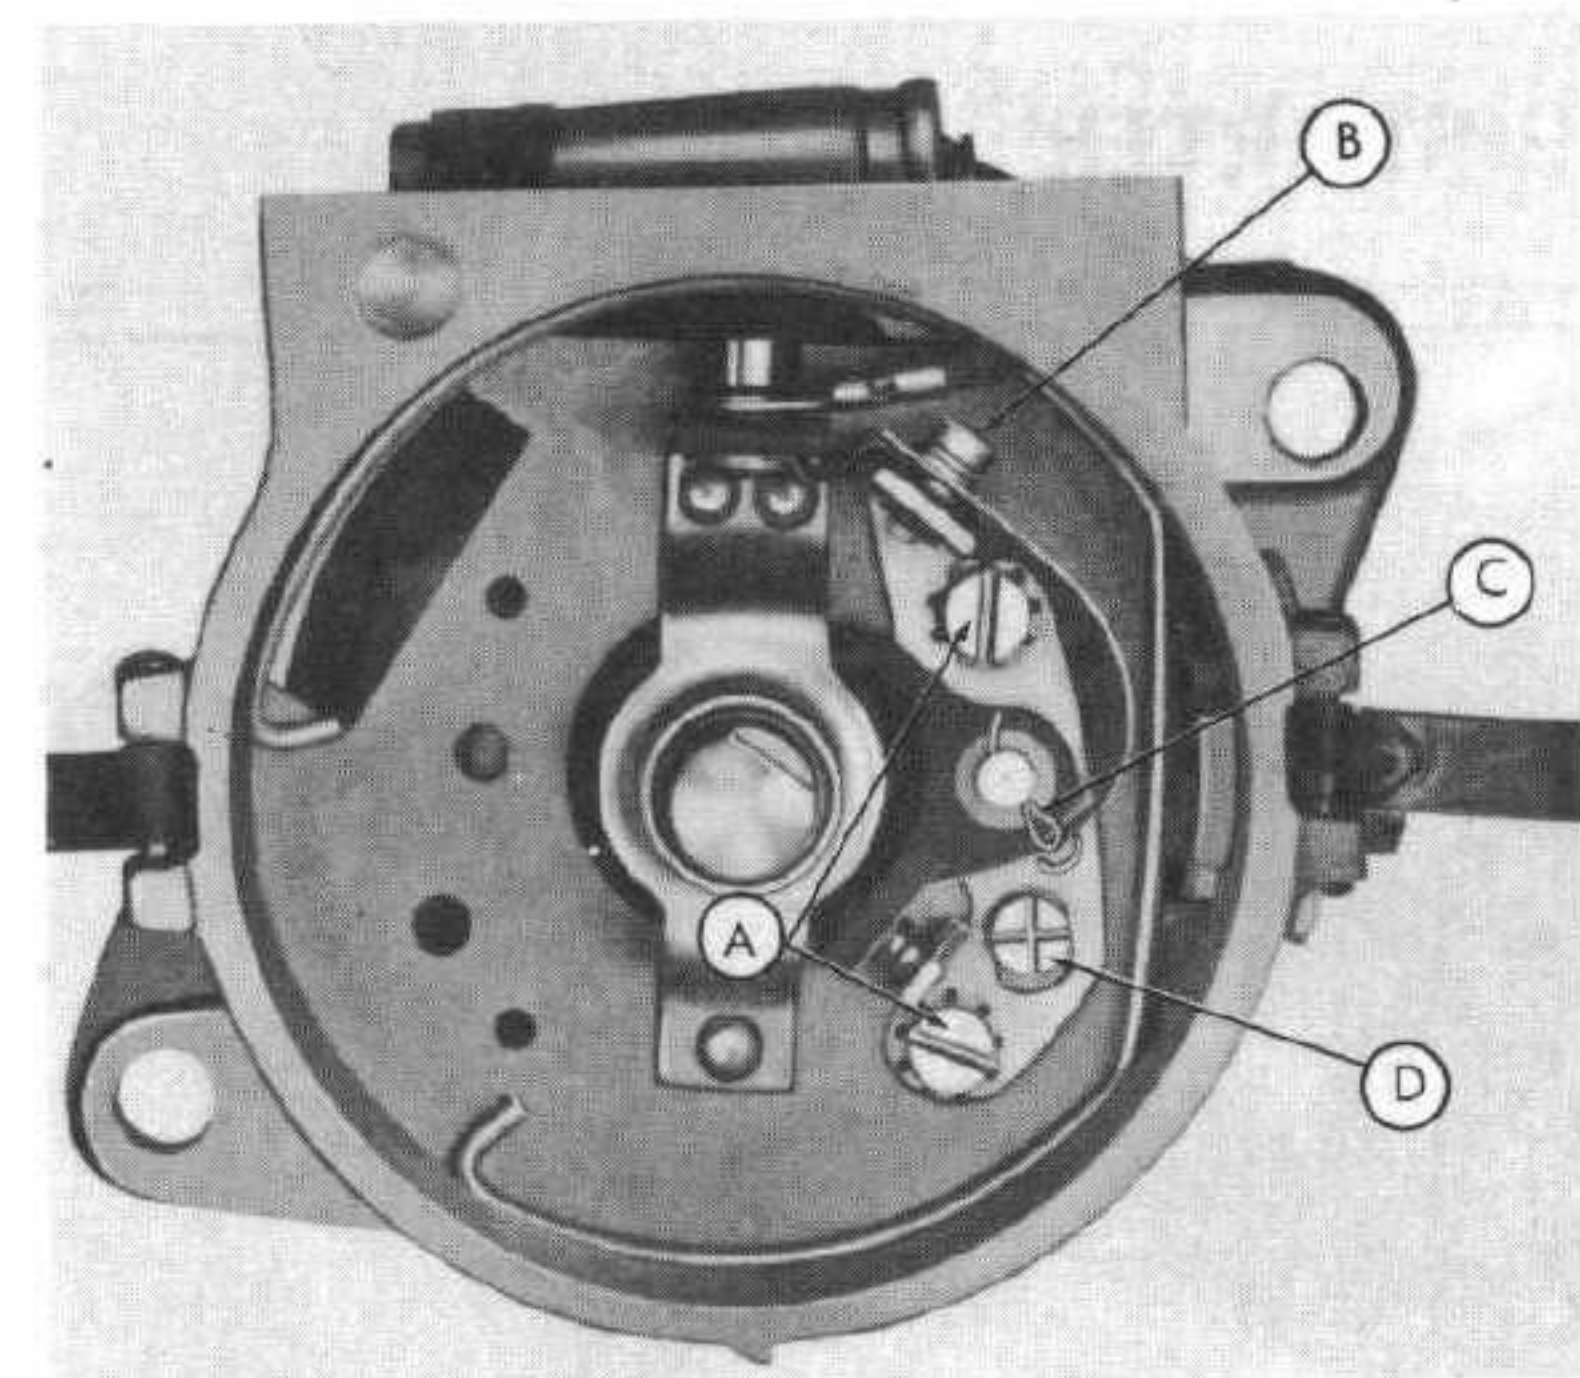

Fig. 2
- Step 2—Remove the cotter pin and washer (C-Figure 2) from the breaker arm post.
- Step 4—Remove the two cap screws and lock-washers (A-Figure 2) that secure the stationary breaker contact to the plate assembly.
NOTE: This adjustment is made by loosening the two cap screws (A-Figure 2) and turning the eccentric screw (D-Figure 2).